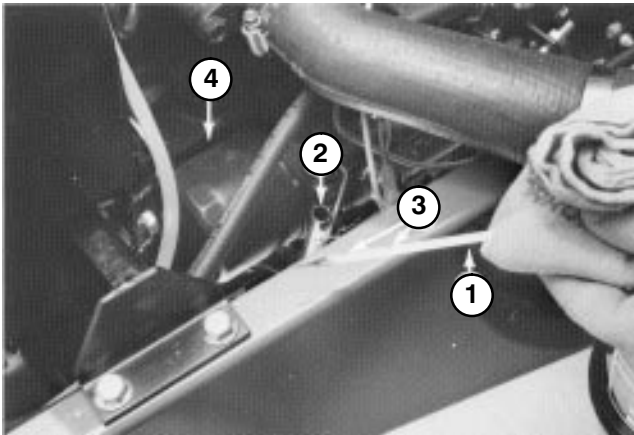

Figure 47
4. Remove oil drain plug and allow oil to flow into drain pan. Remove and replace oil filter (Fig. 47); refer to parts catalog for part number.